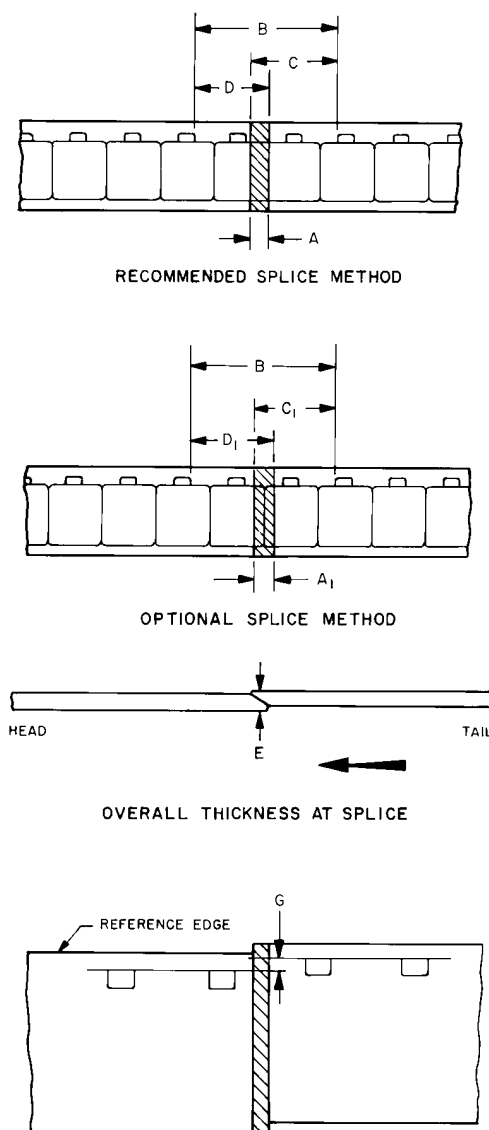

Figure 1 – Splices
2.1 The dimensions shall be as given in figure 1 and table 1. The position of the splice is defined by dimensions C and D.
A.3 In figure 1, the splice is arranged with the perforations at the top in order to show them as they appear on most